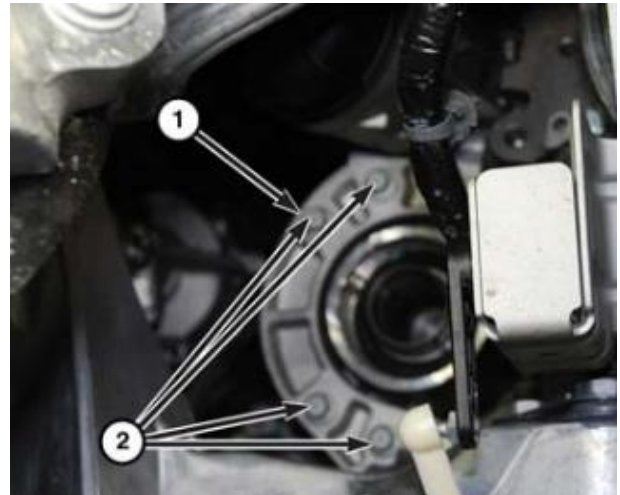

Figure 10 – PTU Support Bracket and Bolts
21. Remove the bolts (2) holding the PTU support bracket (1) to the PTU (Figure 10).
7. Install the bolts to hold the PTU support bracket to the PTU and tighten to 27 N·m (20 ft. lbs.) (Figure 10).